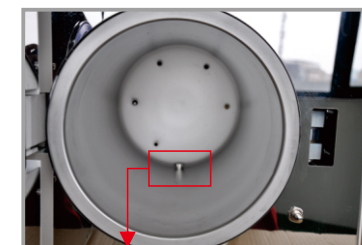

Fig 9-4
9.2 Draining of water from the machine Drain the condenser water collector and water reservoir. Connect the water outlet using the one end of the tube without a connector and the other end of the tube to a drainage sink. Then turn the draining knob anti- clock wise to drain the water from the machine.(Fig 9-4)